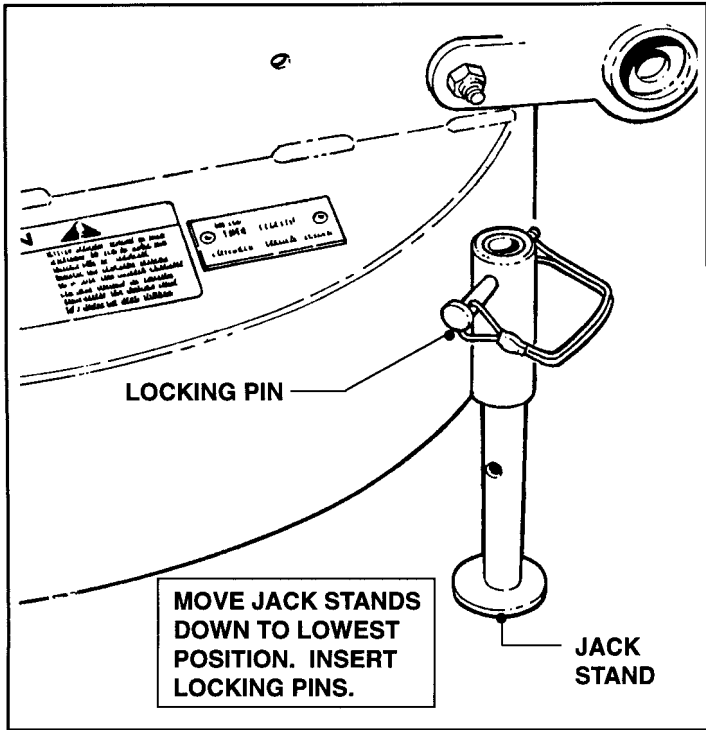

FIGURE 8.13
- A. The rear of Deck must be raised up or both Jack Stands moved down to the lowest position and both Locking Pins inserted. See Figure 8.13 on following page.